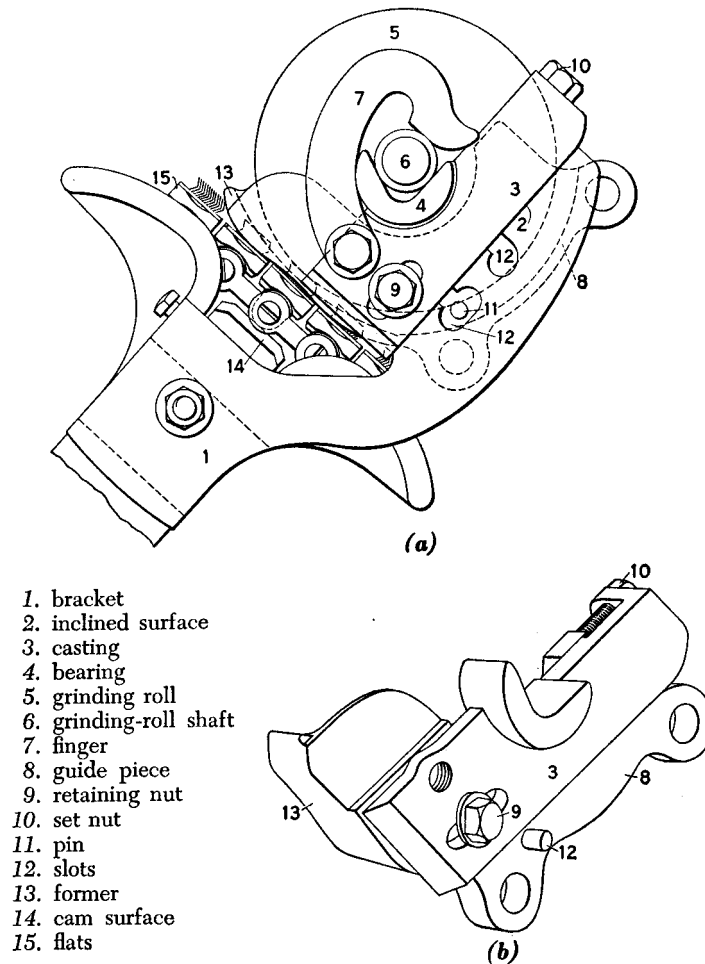

FIG. 25. CRADLE FOR GRINDING FLATS
69. Different attachments are used to grind the flats properly. We'll look at one of them, so that you will understand the principles. This attachment is illustrated in Fig. 25; sketch (a) shows the grinding apparatus in position, while sketch (b) is a perspective view of some of the essential parts. The brackets that support the different parts are attached to the side of the card, one bracket on each side. Resting against the inclined surface of the bracket is a casting that carries the bearings for the grinding roll. Attached to this casting is a finger that locks the grinding-roll shaft in position. The casting is secured to the guide piece by setscrews. It can be adjusted by loosening the retaining nut and turning the set nut. Using these adjustments, you can move the grinding roll nearer to, or farther from, the teeth of the flats. A pin that is carried by the guide piece may be set in either of the slots cast in the bracket, sketch (a). At its lower part, the guide piece carries the most essential part of the assembly. This is called the former, and it is so shaped that, if it is pressed against the